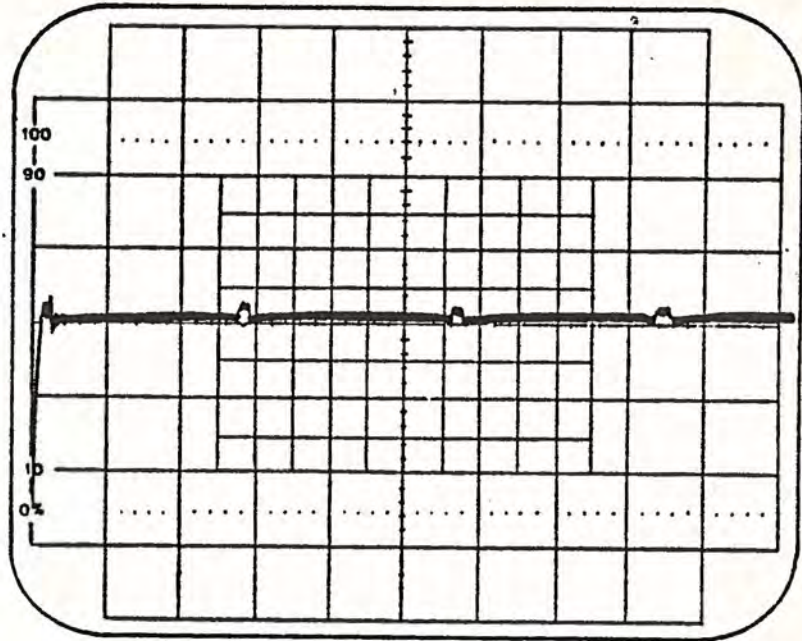

Figure 3-15
- A. The first possible Refresh failure can affect all addresses on the board and is easily detected on the front panel by depositing 0's to any address on the board. A few seconds after depositing the 0's, random data bits will appear on the front panel data display. Pin 14 of the RAMs, whose data bits are HIGH on the front panel, will be at a tri-state level of approximately +2V (Figures 3-15 through 3-17). This is interpreted as a HIGH by IC Z and passed to the system data in bus, causing the front panel data LED's to illuminate.